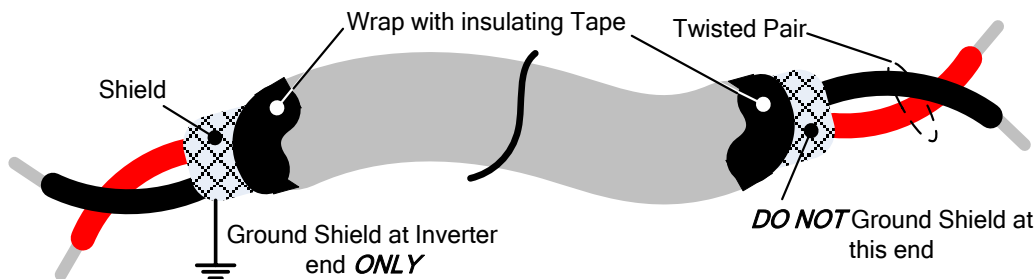

Figure 3.3.6.1 Shielded Twisted-Pair
- (1) Separate the wiring for control circuit terminals from main circuit wiring for terminals (R/L1, S/L2, T/L3, U/T1, V/T2, and W/T3).
- (2) Separate the wiring for control circuit terminals (R1A, R1B, R1C / R2A, R2C /R3A, R3C) from wiring for terminals S1 ~ S6, A01, A02, GND, +10V-, AI1, AI2, and GND wiring.
- (3) Use shielded twisted-pair cables (#24 - #14 AWG / 0.5 -2 mm²) shown in Fig. 3.3.6.1 for control circuits to minimize noise problems. The maximum wiring distance should not exceed 50m (165 ft).